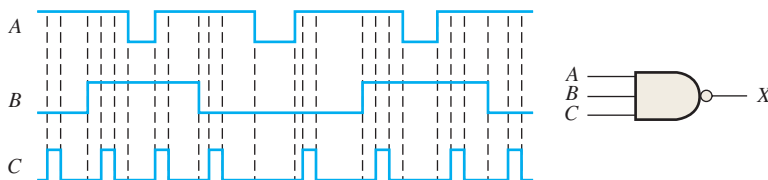

FIGURE 3-84
18. Determine the gate output for the input waveforms in Figure 3-84 and draw the timing diagram.